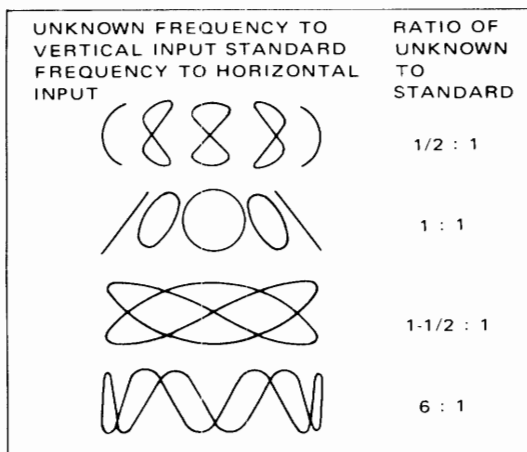

Fig. 27 Lissajous' waveforms used for frequency measurement
4. The resulting, called Lissajous' pattern, shows the ratio between the two frequencies (see **Fig. 27**).